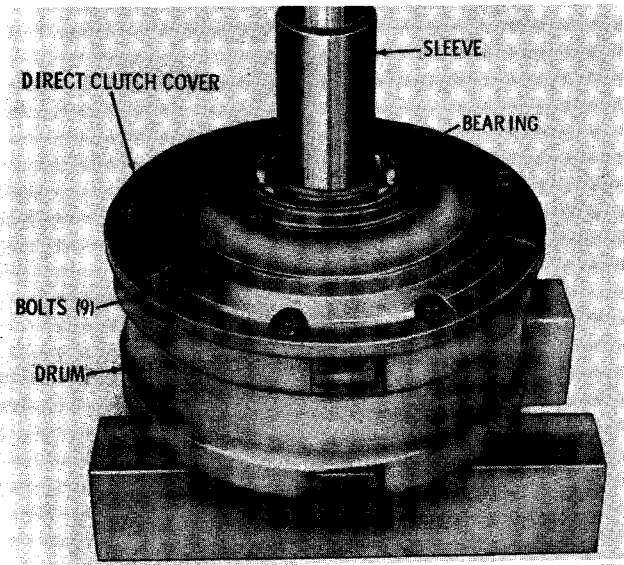

Fig. 5-29. Removing direct clutch hub from bearing (VS series)
(9) Place the clutch drum in a press and press the direct clutch hub out of the bearing (fig. 5-29). Remove the bearing and hub from the clutch drum. Remove nine bolts from the direct clutch cover and remove the cover and piston by tapping on the edge of the cover with a soft hammer.
(10) In earlier model transmissions, remove a snapping and Belleville spring (not illustrated).
(11) Remove piston 7 (A, foldout 12)